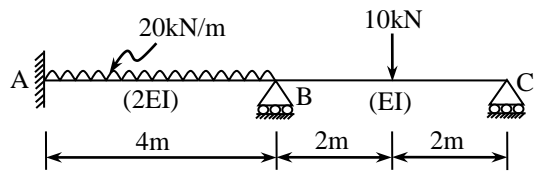

Fig. 1 Q-3(a), Q-3(b)
- Q.3** (a) Find out displacements for the beam shown in fig. 1 using stiffness member approach. **07**